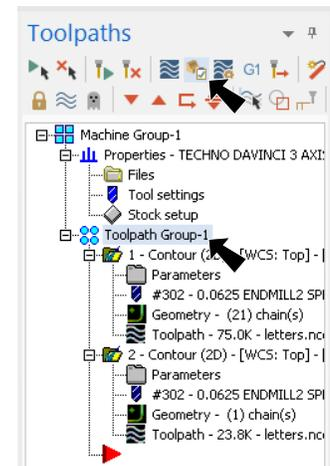

Fig. 20
Step 1. Click **Toolpath Group-1** in the Toolpaths Manager to select **both** toolpaths, **Fig. 20**.
Step 2. Click **Verify**  in the Toolpaths Manager, **Fig. 20**.